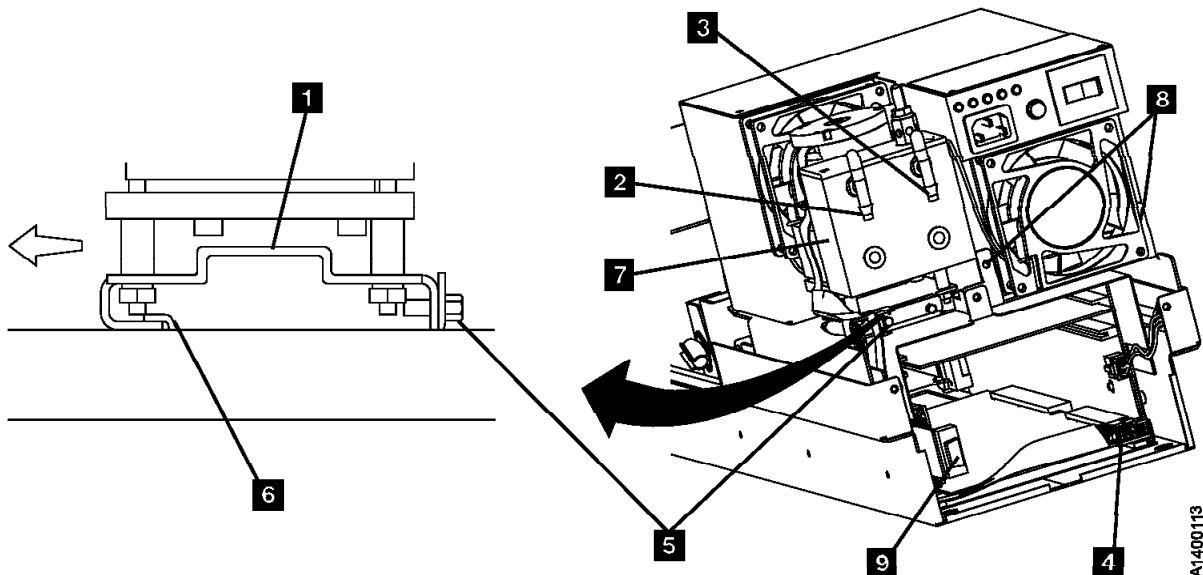

Figure 315. Pneumatic Assembly
4. See Figure 315. Label and disconnect the vacuum **3** and pressure **2** hoses from the rear of the pneumatic assembly. The vacuum and pressure hose positions are marked with a letter on top of the assembly; V for vacuum and P for pressure.
- c. Remove the two pneumatic assembly mounting screws. See Figure 315 on page LOC*CAR-49 **5**.
Note: Prior to replacement of the power supply check the part number of the pneumatic assembly filter **7** in Figure 315 on page LOC*CAR-49.